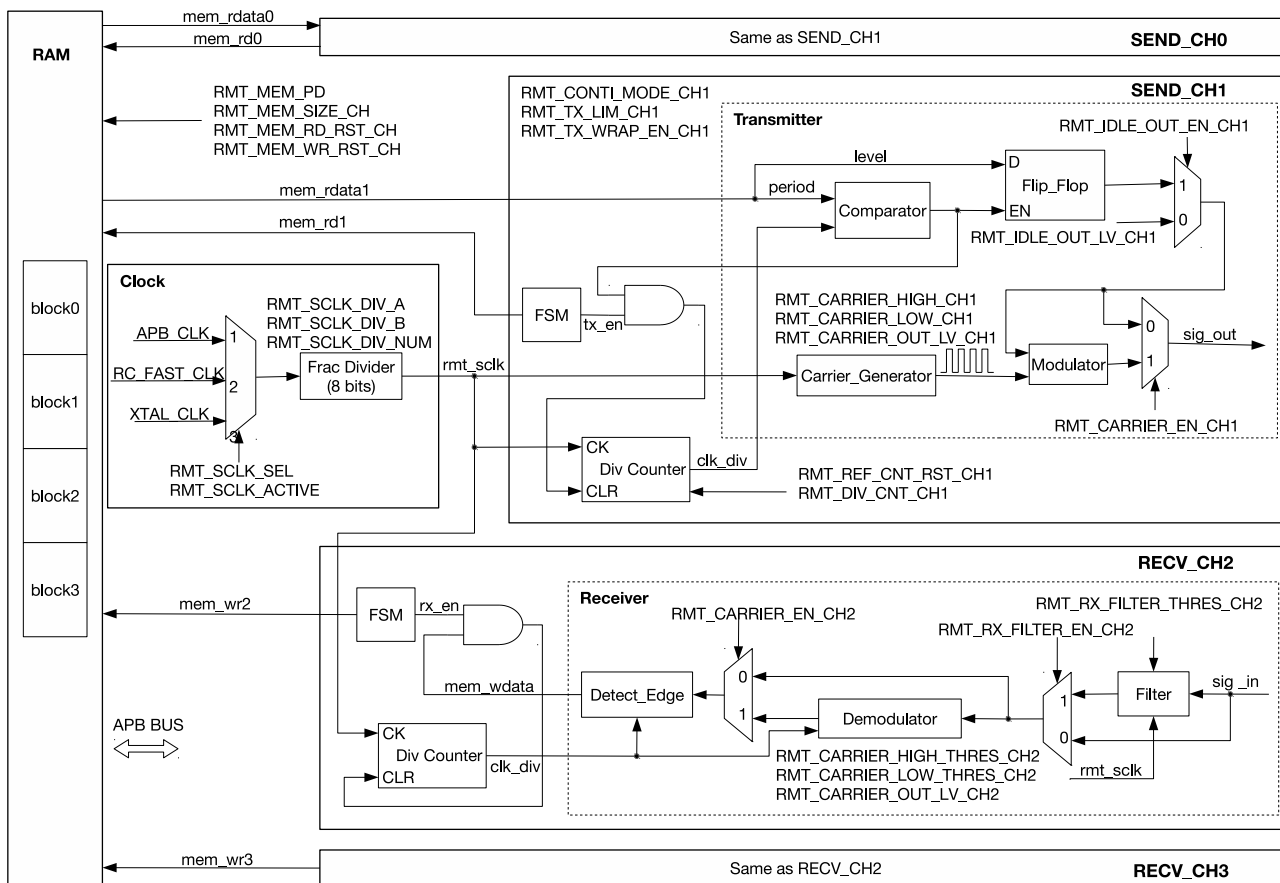

Figure 33-1. RMT Architecture
- Period: points out how many clk_div clock cycles the level lasts for, see Figure 33-1.
The clock source of RMT can be APB_CLK, RC_FAST_CLK or XTAL_CLK, depending on the configuration of RMT_SCLK_SEL. RMT clock can be enabled by setting RMT_SCLK_ACTIVE. RMT working clock (rmt_sclk) is obtained by dividing the selected clock source with a fractional divider, see Figure 33-1. The divider is:
RMT_DIV_CNT_CH n/m is used to configure the divider coefficient of internal clock divider for RMT channels. The coefficient is normally equal to the value of RMT_DIV_CNT_CH n/m , except value 0 that represents coefficient 256. The clock divider can be reset by clearing RMT_REF_CNT_RST_CH n/m . The clock generated from the divider can be used by the counter (see Figure 33-1).